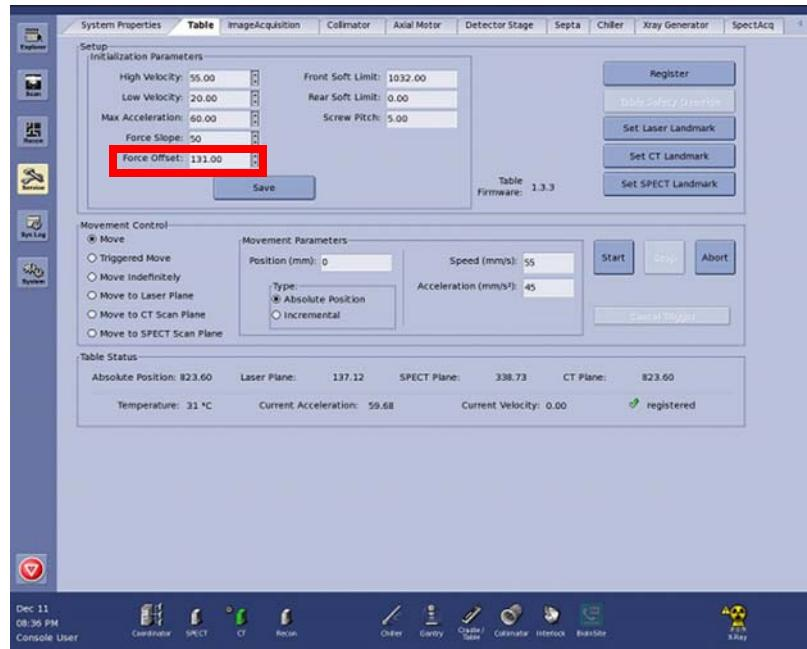

Figure 4-6
12. Reduce the Force Offset and save the value.(Figure 4-6)